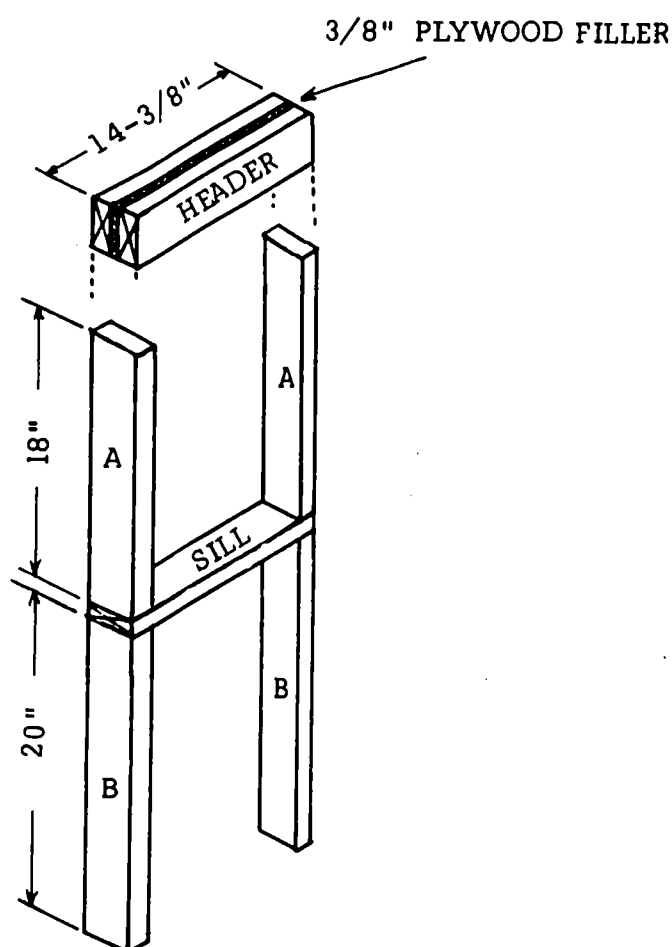

Fig. 47E-3. Window Frame Detail
14. Nail both "B" pieces to the studs in the frame structure. See Fig. 47E-2. Use 16d nails.